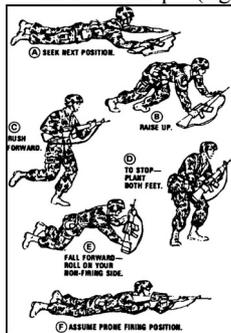

Figure 071-326-0502-4. Rush
- (1) Push both arms forward while pulling your right leg forward.
- (2) Pull on the ground with both arms while pushing with your right leg.
- (3) Repeat steps 9e(1) and 9e(2) until you reach your next position.
5. Move using the rush movement technique (figure 071-326-0502-4).